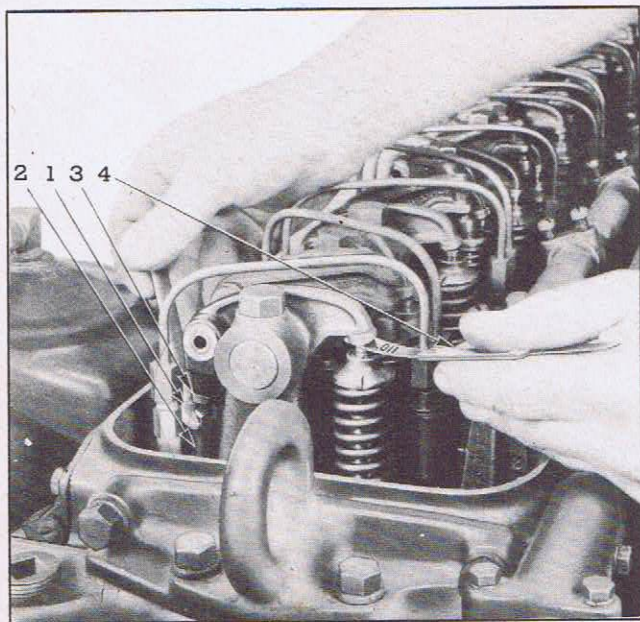

FIG. 2—ADJUSTING VALVE CLEARANCE
3. Refer to Fig. 2 and loosen lock nut (3) just below the end clevises on each of the two valve push rods. Insert .011" feeler of gauge KMO-233-B (4) between end of valve stem and rocker and adjust clearance to a light contact with the feeler by turning push rod clockwise to increase clearance and counterclockwise to decrease clearance. Holding push rod from rotating, remove .011" feeler and try gap with .013" feeler. .013" ribbon should be "NO GO". While still holding push rod, tighten lock nut and recheck lash with the two feeler ribbons to .011" "GO", .013" "NO GO".